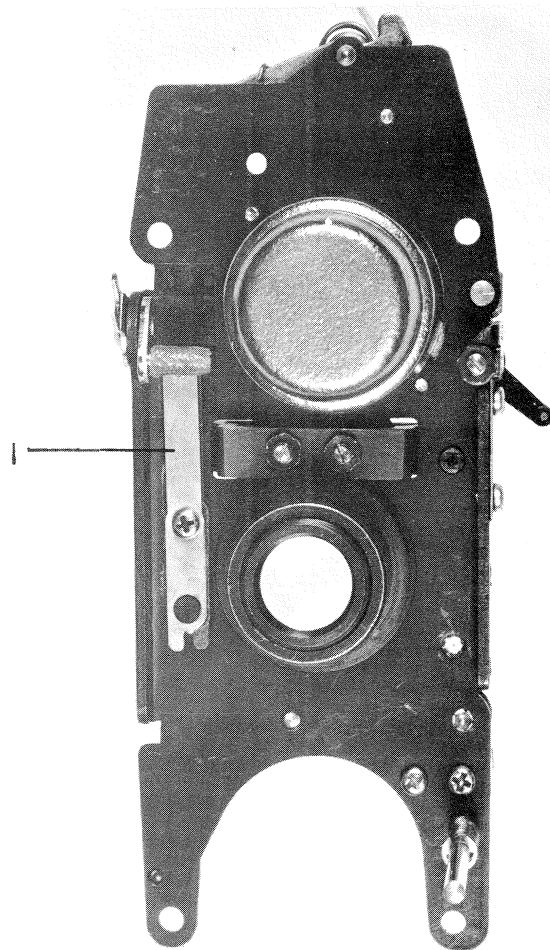

Fig. 16
- b-2. Inspect, adjust, remove, and replace the 18/24 speed changing switch (1 in Fig. 16).